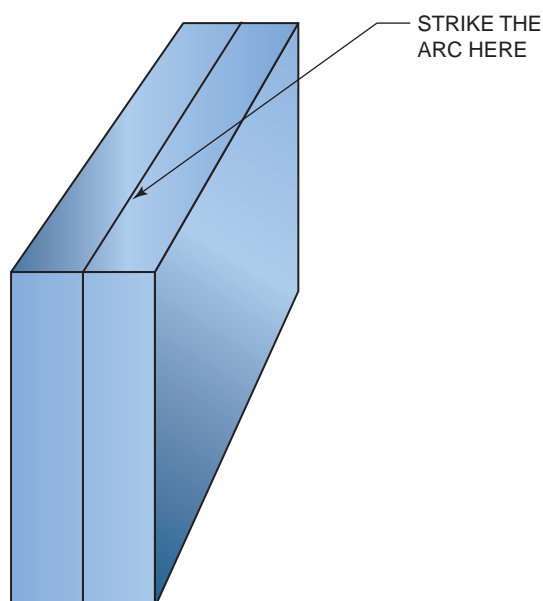

FIGURE 9-56 Strike the arc in the joint.
- With the electrode pointed in a slightly trailing angle, **Figure 9-56**, strike the arc in the joint.